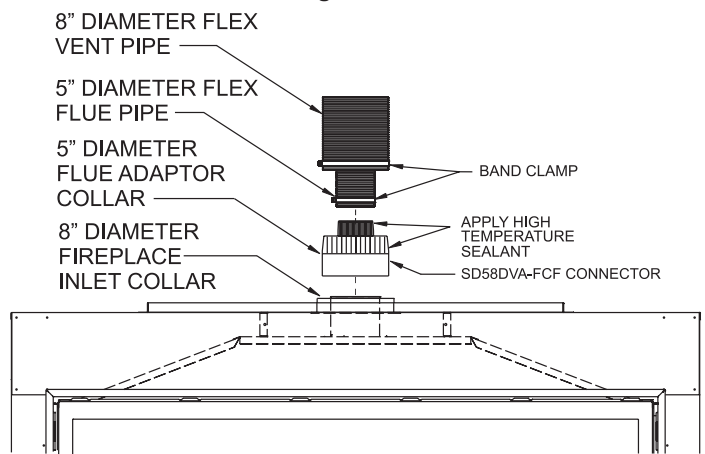

Figure 59b
NOTE: For installation of Flex Venting on Fireplaces that have Flue and Inlet Vent collars flush with top of the fireplace, it is recommended that an SD58DVA-FCF Connector be used. When using the SD58DVA-FCF Flex Vent Connector, it will require removing (or cutting off) the 5" diameter adapter from the DVVK5F Flex Flue. **See Step 10b and Figure 59b.**
- If using the SD58DVA-FCF Vent Connector, apply sealant to the inside of the 5" diameter flex flue pipe, then connect the flex flue to the 5" flue takeoff on the SD58DVA-FCF Connector. Use a 5" diameter band clamp and a minimum of two screws to secure the flex flue to the SD58DVA-FCF Connector. **See Figure 59b.**